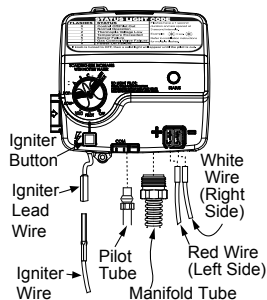
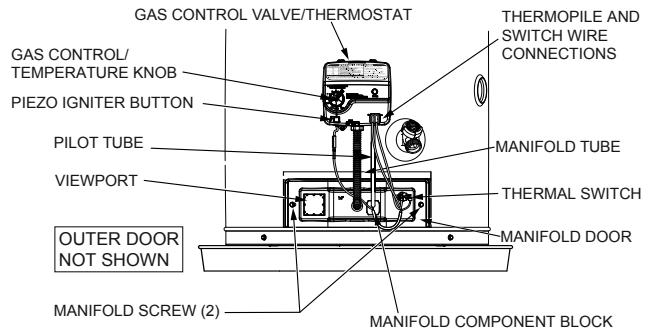

FIGURE 32.
FIGURE 33.
5. Disconnect the pilot tube (7/16" wrench), the igniter wire from the igniter lead wire, and manifold tube (3/4" wrench) at the gas control valve/thermostat. (Figure 33). **NOTE:** L.P. Gas systems use reverse (left-hand) threads on the manifold tube.
6. Use needle nose pliers to disconnect the white (-) thermopile wire from the gas control valve/thermostat (Figure 32). Then disconnect both red thermal switch wires from the thermal switch on the old manifold door. (Figure 33).
8. Reconnect the igniter wire (Figure 32).
4. Disconnect the igniter wire from the igniter lead wire. Use needle nose pliers to disconnect the red (+) and white (-) thermopile wires. Disconnect pilot tube (7/16" wrench) and manifold tube (3/4" wrench) at the gas control valve/thermostat (Figure 32). **NOTE:** L.P. Gas systems use reverse (left-hand) threads on the manifold tube.